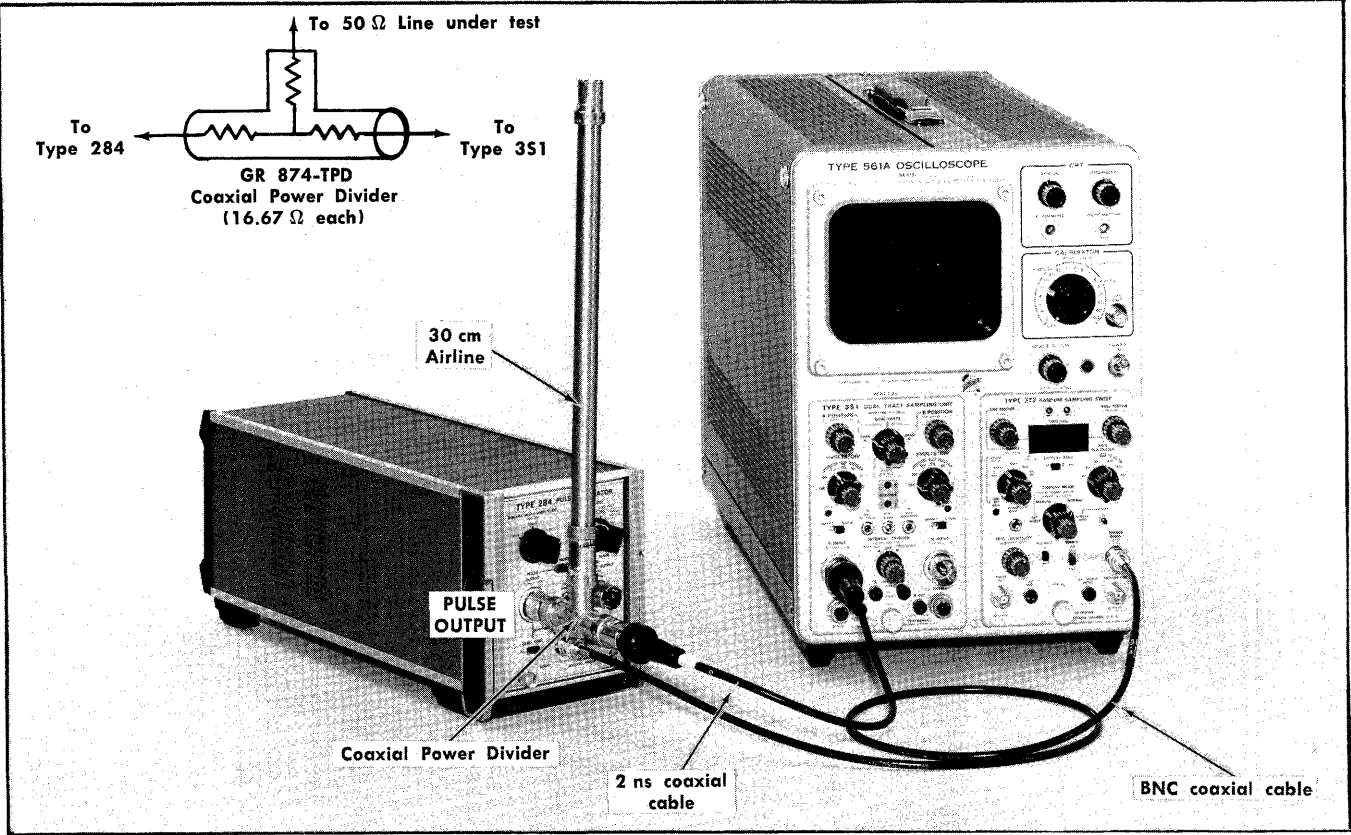

Fig. 2-29. TDR setup for 50 Ω Input Sampling oscilloscope.
**Using a 50  $\Omega$  Power Divider.** Calibrating a 50  $\Omega$  power divider TDR system is different than the Probe system described above. The fully 50  $\Omega$  sampling system requires an attenuator coupling device, such as the GR 874-TPD shown in Fig. 2-29. The signal losses in the power divider must be considered when adjusting the oscilloscope vertical deflection sensitivity to obtain a calibrated  $\rho$ /div deflection factor. The setup for this calibration is shown in Fig. 2-29. The power divider matches the Type 284 50  $\Omega$  output to both the oscilloscope 50  $\Omega$  input and the 50  $\Omega$  transmission line under test. The loss between any two of the power divider connectors is 6 dB (half voltage) when each connector has a 50  $\Omega$  circuit connected.
variable control is adjusted to display a transmission line length of one meter in ten divisions. The initial system includes a 30 cm airline on the test side of either the VP-2 or the Power Divider (as shown in Fig. 2-26 or Fig. 2-29). The 30 cm airline gives a "clean" time reference for the positioning of the oscilloscope display at the CRT graticule left edge.